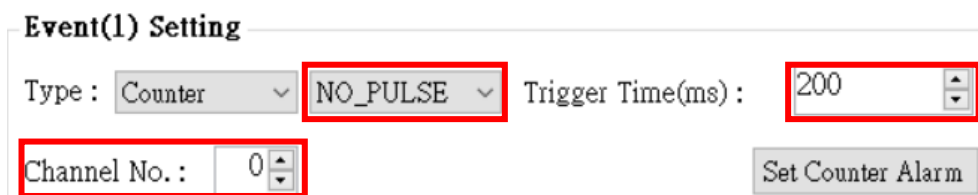

Figure 6.10.24
F. Select the trigger condition as "NO\_PULSE", Trigger Time "200ms" and Channel No. "0", as shown in Figure 6.10.24